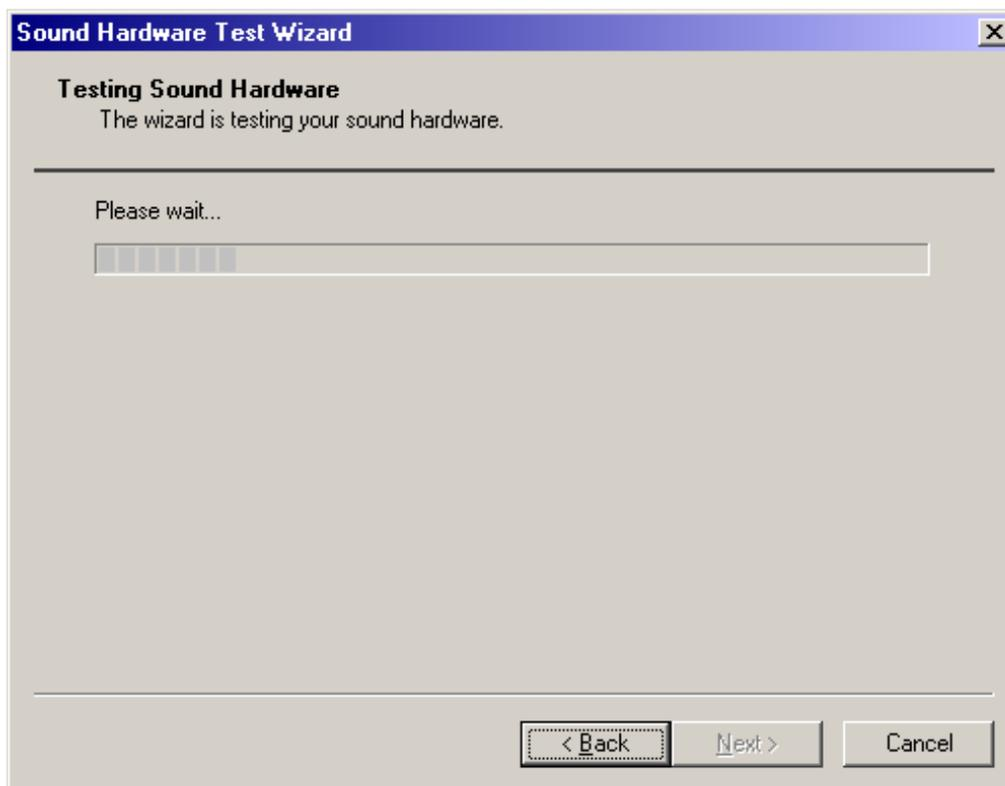

Figure 275. Wait while the hardware test wizard runs
8. The window seen in Figure 275 will appear while the testing continues.